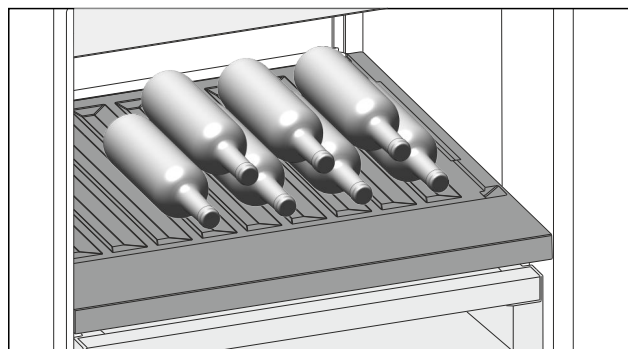

Fig. 134
- ▶ Insert the bottles facing backwards towards the rear wall. (see Fig. 134)